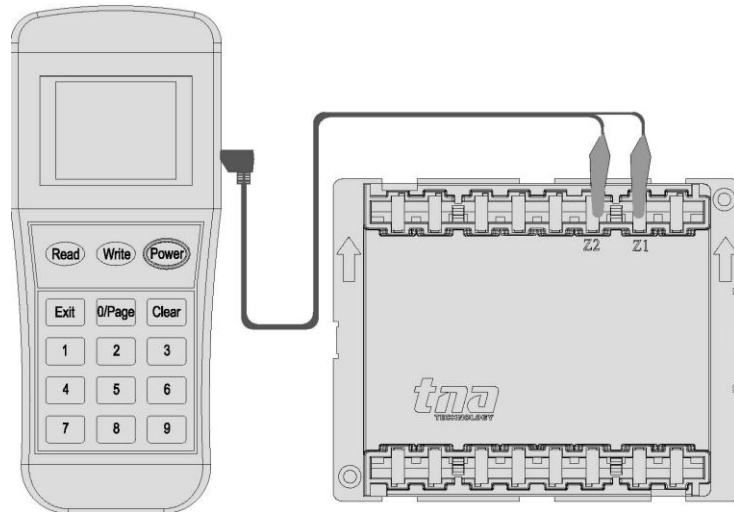

Figure 6: Programmer Connection Details
1. Connect the programming cable to Z1 and Z2 terminals (Figure 6). Press **“Power”** to switch on the unit.
2. Connect the programming cable to Z1 and Z2 terminals (Figure 6). Press **“Power”** to switch-on the unit.
2. Connect the programming cable to Z1 and Z2 terminals (Figure 6). Press **"Power"** to switch-on the unit.
1. Connect the programming cable to Z1 and Z2 terminals (Figure 6). Press **"Power"** to switch-on the unit.